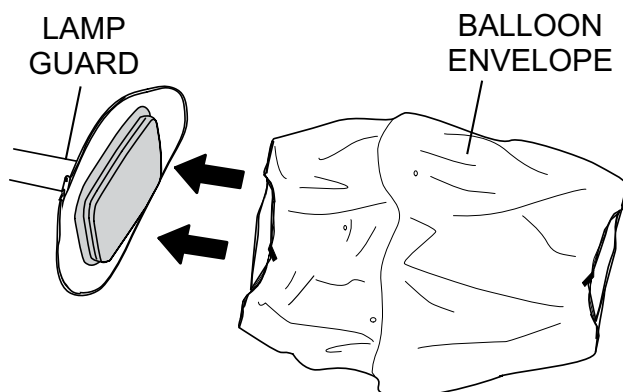

Figure 28. Installing New Balloon Envelope
3. Slide the new balloon (Figure 28) envelope over the top of the lamp guard assembly.